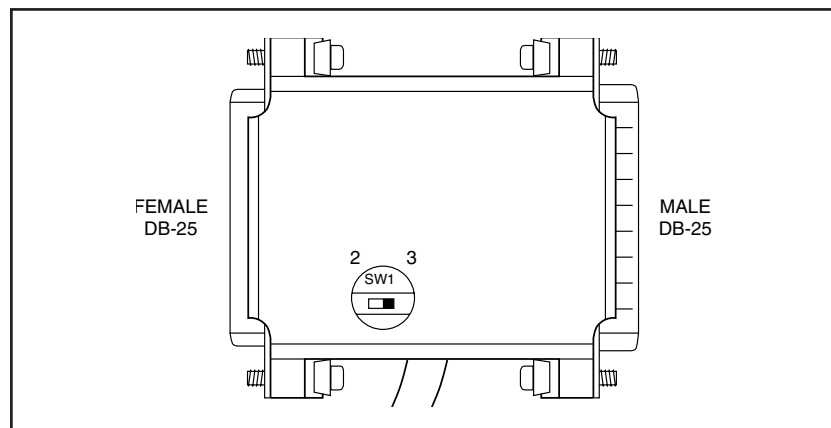

Figure 1. Switch Setting
2. Refer to Figure 1 and set SW1 on the DB25 connector to the 3 position.